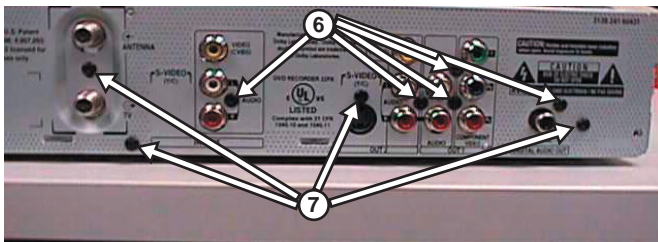

Figure 4-10
- 3) Service Position can be achieved by flipping the Analog board to the Vertical Position as shown in Figure 4-10.